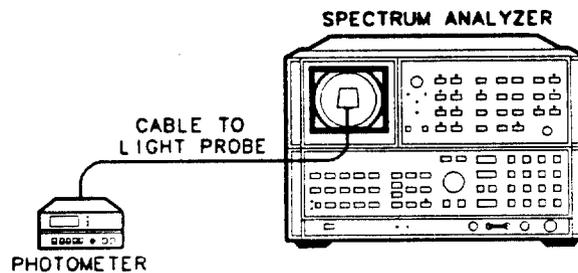

Figure 16. Final Display Adjustments Setup
1. Connect the equipment as shown in Figure 16.